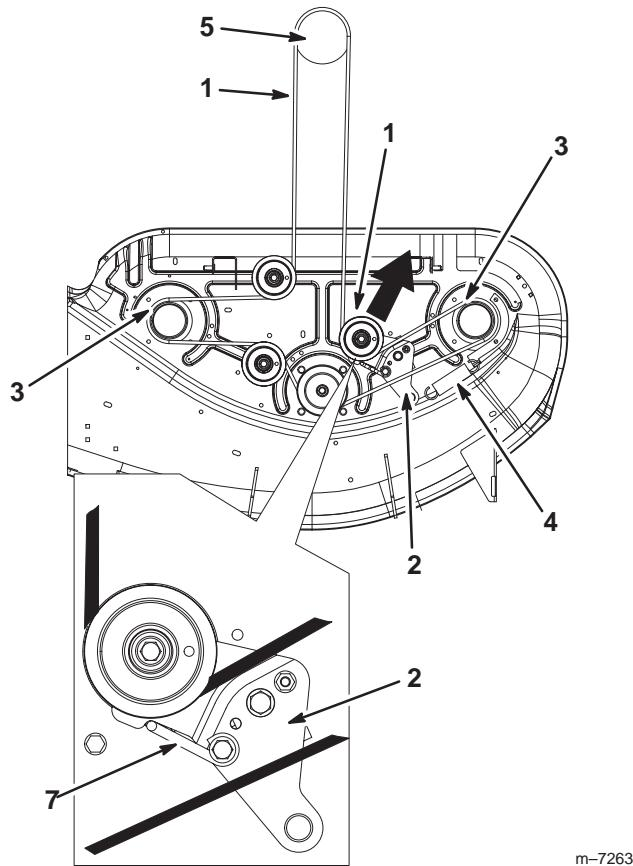

Figure 43
- Pull the idler pulley in the direction shown in Figure 43 and roll the belt off of the pulleys.
- Route the new belt around the engine pulley and mower pulleys (Fig. 43).
- Pull the idler pulley in the direction shown in Figure 43 and route the belt onto the idler pulley (Fig. 43).
- Rotate the belt guide toward the pulley until it stops on the idler arm (Fig. 43).